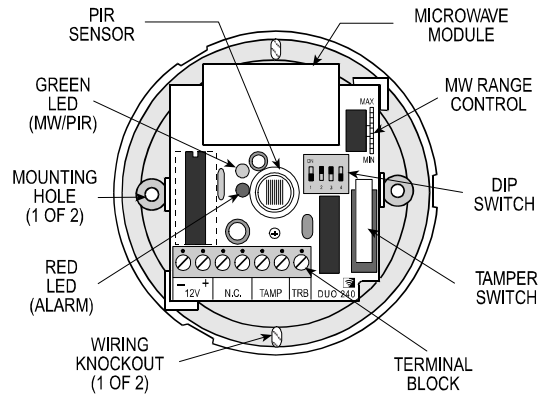

Figure 3. Component Layout
- B. Press the base against the ceiling in the selected location. Mark the two points for drilling through the mounting holes (see Fig. 3).
The two LEDs (Fig. 3), which are hidden behind the lens when the cover is installed, are visible through the lens when illuminated. They are used to signal various alarm and trouble messages as shown in Table 1 below:
The DIP switch mode selector is mounted on the unit's PC board (Fig. 3). It controls four functions as demonstrated in Fig. 5 and as detailed in Table 2.